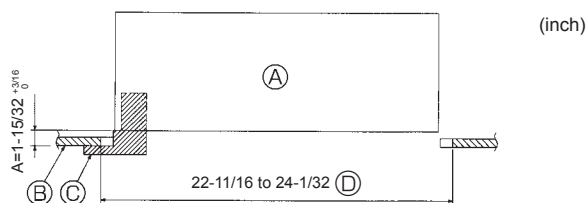

Fig. 10-2
10.2. Preparing to attach the grille (Fig. 10-2)